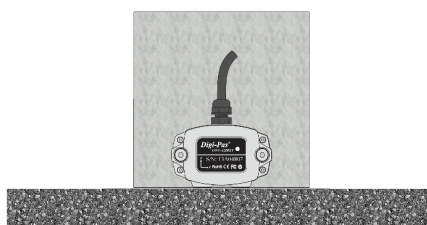

Figure 27. Compact Sensor Module Position of Calibration Step 1
3. Locate the sensor module as following Figure 27. The sensor is ready for user to perform calibration step 1.
10. For **DWL4500XY** model, please perform only 4 steps calibration as shown in Figure 27, 28, 33, and 34.